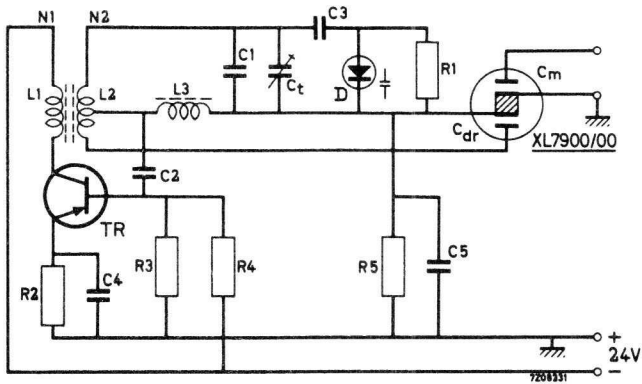

Fig.2
1) For instance in an apparatus realised with the circuit shown in Fig.2, it turned out that all capacitors have a conversion efficiency between 10 and 40% at a voltage over L₁ of 1 V_{RMS}.